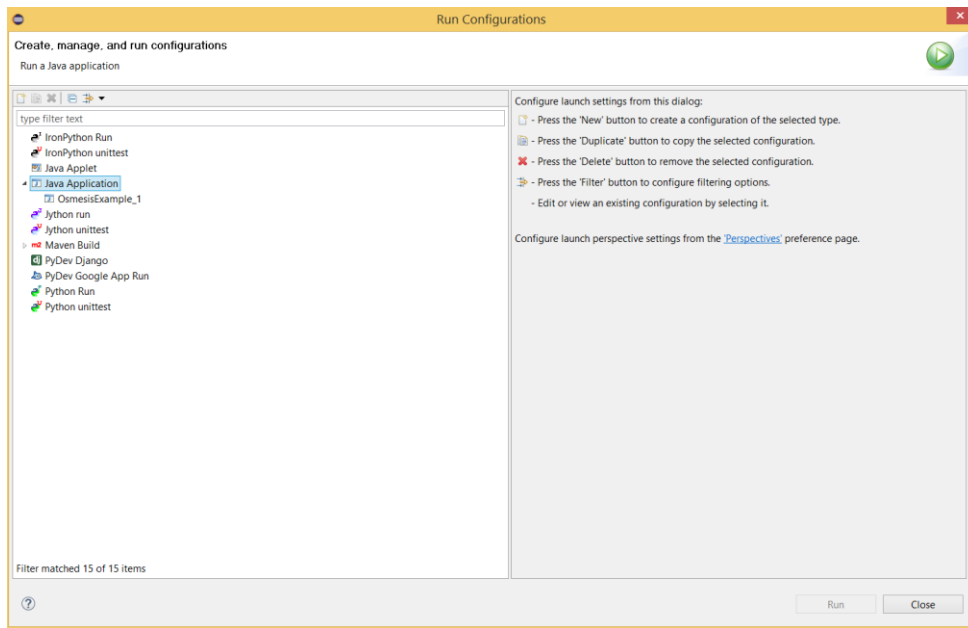

Figure 4.5
Step 2: Double click on Java Application and Eclipse will create the first example automatically (see Figure 4.5).